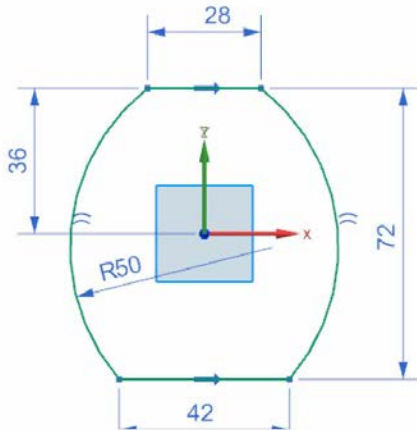

Figure 11-42 Sketch for the base feature
- Create the base feature using the **Bounded Plane** tool, refer to Figures 11-42 and 11-43.
1. Draw the fully constrained sketch on the XC-ZC plane, as shown in Figure 11-42. Exit the sketch.